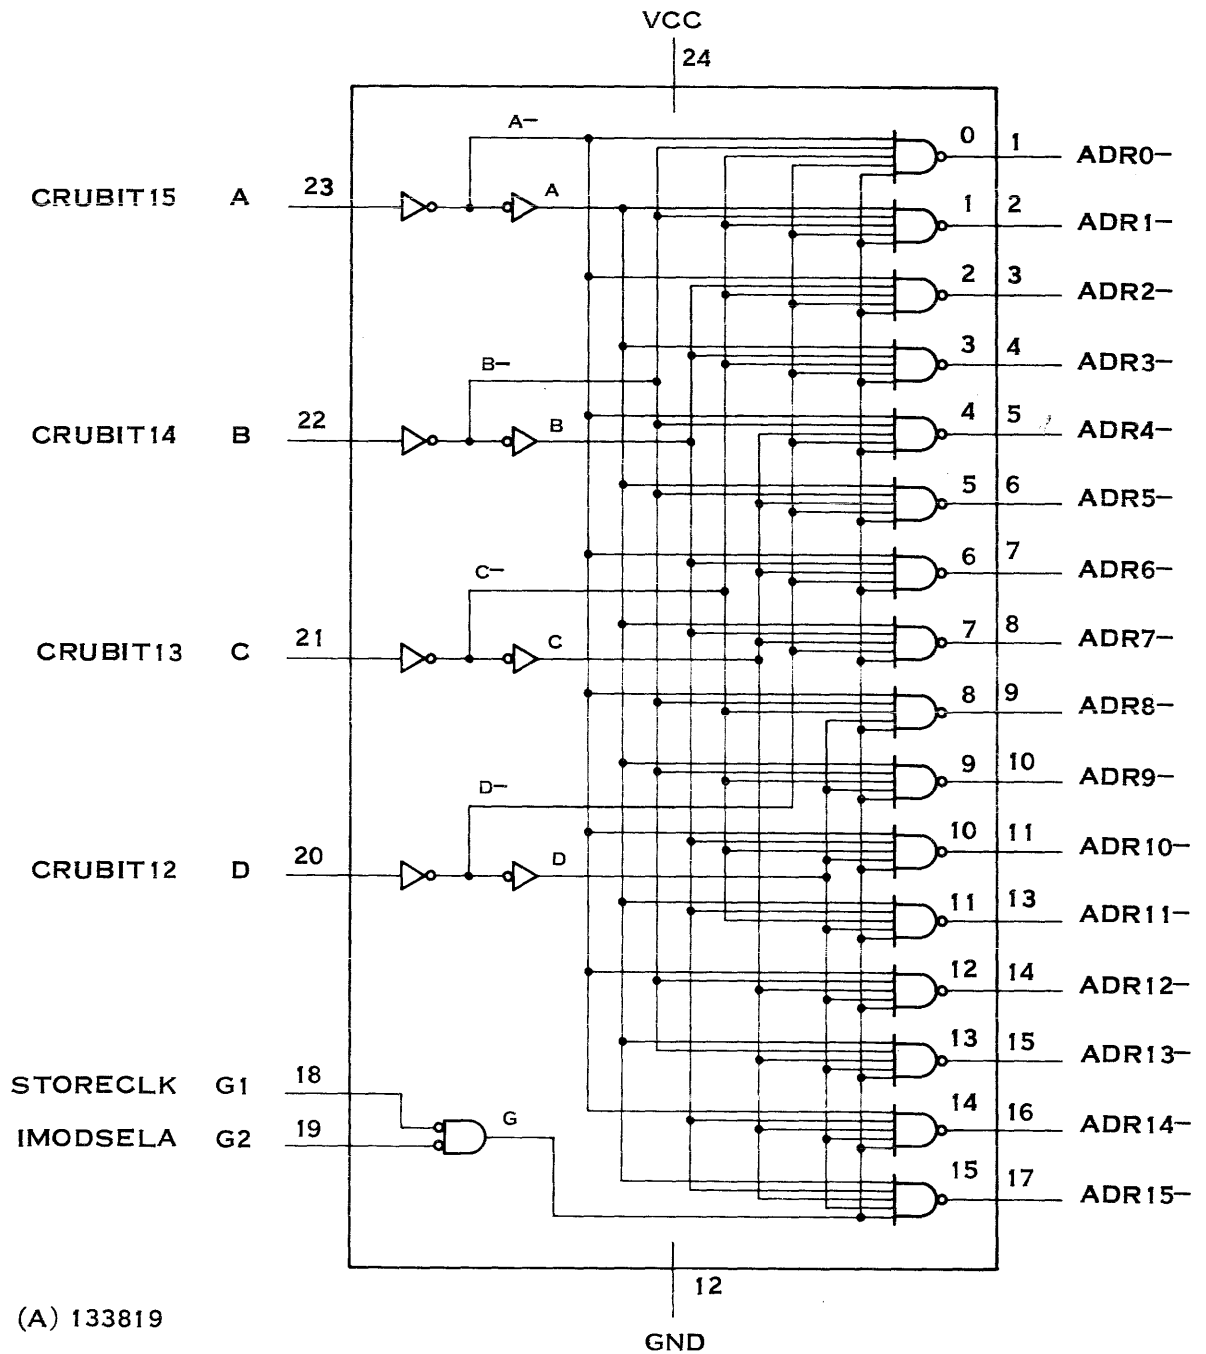

Figure 4.4. 4-Line-to-16 Line Decoder/Multiplexer
4.3.1 OUTPUT DECODER. The U13 output decoder is a 4-line-to-16-line decoder. As shown in figure 4-4, it accepts the CRUBIT12-15 inputs and the IMODSELA- and STORECLK- signals. When IMODSELA- and STORECLK- are both low, the decoder reads the inputs and selects the appropriate output line.